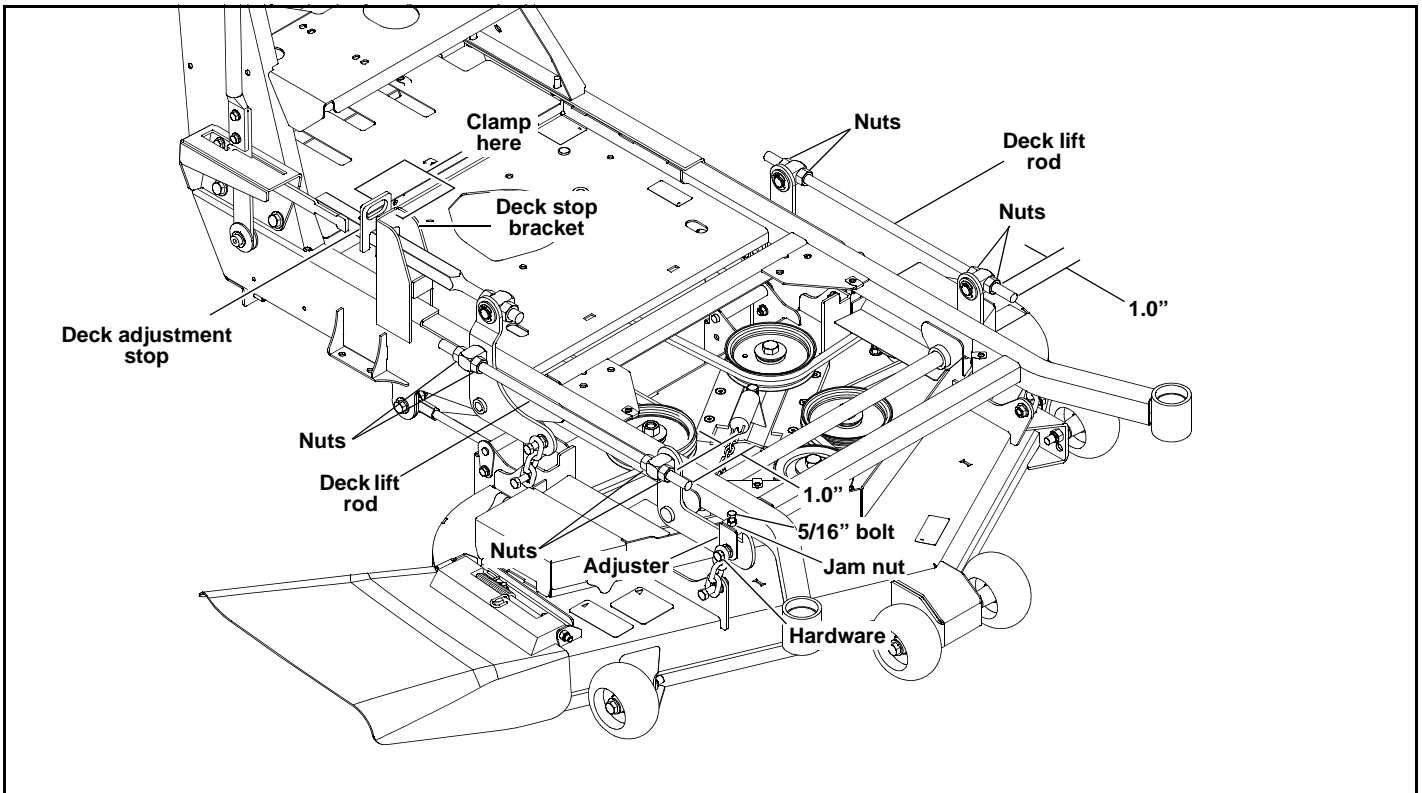

Figure 6-2
4. Place the height stop in the 3” (7.62cm) hole, with the flat side of the height adjusting stop against the stop handle. Clamp the height adjusting stop against the deck stop bracket. This will assure that the height will not move during the setting process. Figure 6-2
5. Loosen all nuts on the deck lift threaded rods, and the hardware on the height indicator bar (on the right front), until **all** the deck lift chains are loose, **and** the deck is sitting tightly on all four blocks. Figure 6-2
so that the bar has play. Figure 6-2
8. Set the amount of threads protruding on the deck lift rod from the lift block at approximately 1” (2.54cm) (left & right side). Figure 6-2
9. Jam both nuts against the block. Push or pull on the deck lift bell crank until the chain on the left front just becomes tight, making sure that the deck stays tight against the block. Figure 6-2
10. While keeping the chain tight, tighten the nuts against the deck lift block on the height indicator rod, just enough to carry most of the deck weight on that side — the block should be able to move with only a slight drag. Figure 6-2
11. Jam nuts tightly together against the deck lift block. Figure 6-2
13. Loosen the 5/16” jam nut on the adjuster lift chain, and back the adjuster bolt out to allow the adjuster to move up and down freely. Figure 6-2
14. Tighten the adjuster bolt until the chain just becomes tight. Then tighten just enough to carry the weight of the front of the deck on that side—to check, move the blocks back and forth; they should move with a slight drag. Figure 6-2
15. Tighten the adjuster bolt jam nut to prevent the adjuster bolt from moving. Figure 6-2
17. Make sure that there is still slack in the chain. If not, loosen the two nuts on the block holding the threaded rod until there is slack in the deck lift chain. Figure 6-2
18. Tighten the appropriate nut until the chain just becomes tight, and carries most of the deck weight. Check by moving the block—it should move with a slight drag. Figure 6-2
19. Tighten the other nut on the opposite side of the block, and jam them tightly together against the block. Go to the **left rear** of the mower. Figure 6-2
20. Make sure that there is still slack in the chain. If not, loosen the two nuts on the block holding the threaded rod until there is slack in the deck lift chain. Figure 6-2
21. Tighten the appropriate nut until the chain just becomes tight, and carries most of the deck weight. Check by moving the block—it should move with a slight drag. Figure 6-2
22. Tighten the other nut on the opposite side of the block, and jam them tightly together against the block. Figure 6-2